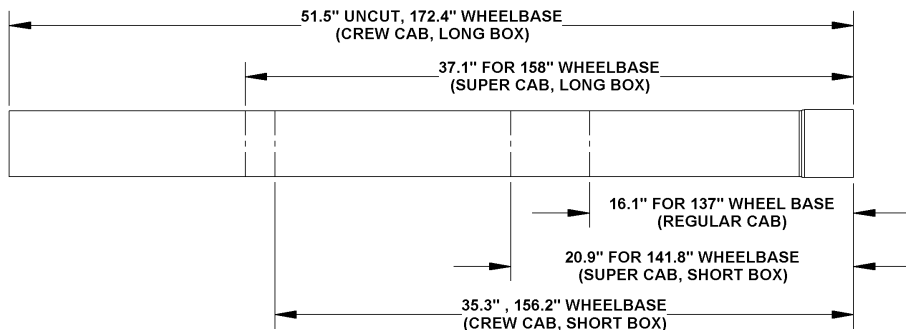

Figure 4
2. The **Extension Pipe** is pre-cut for the 172.4" (crew cab, long box) wheelbase. If installing on a vehicle with a shorter wheelbase, cut the **Extension Pipe** to the appropriate length. **Refer to Figure 4.**